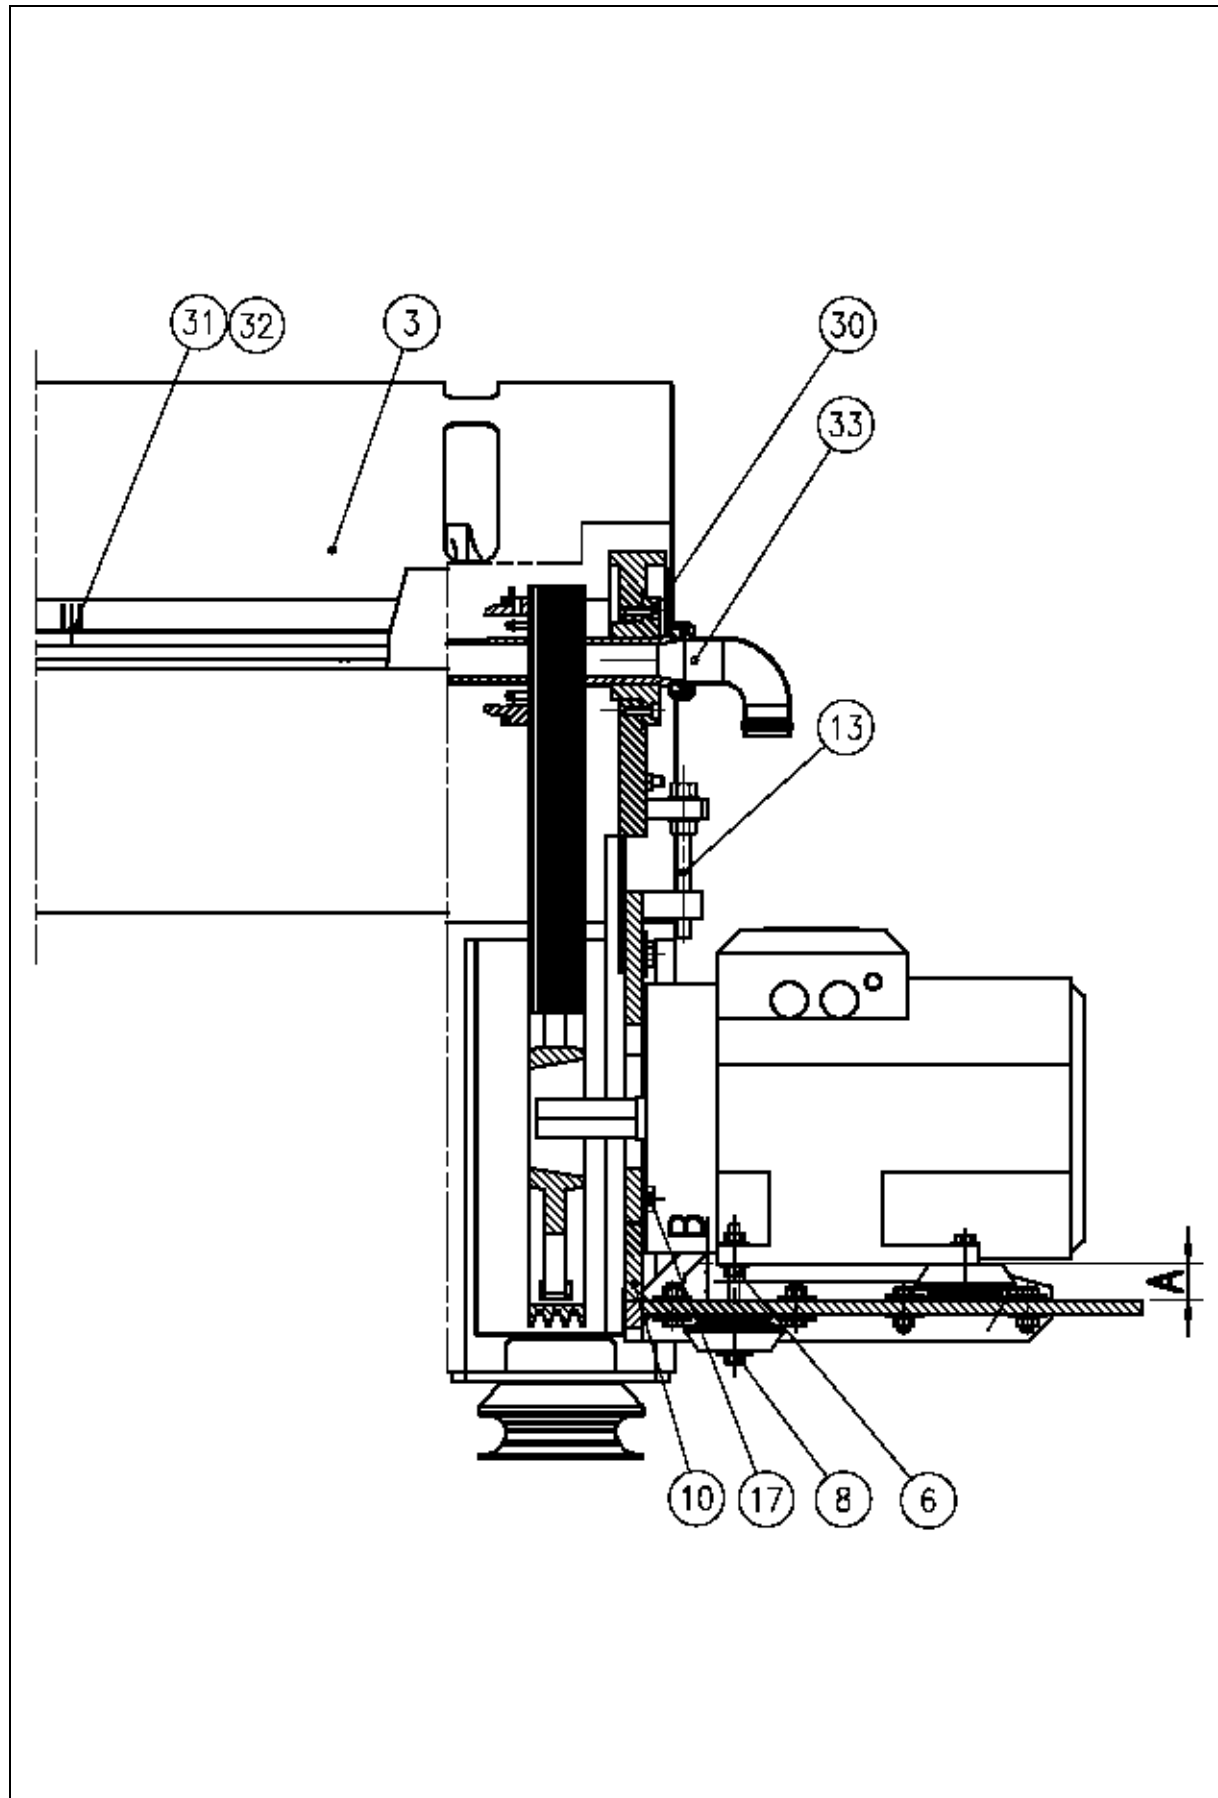

Figure 4.5.1
4.5.1 Disassemble Main Drive (Fig. 4.5.1)
4.5.2 Assemble Main Drive (Fig. 4.5.1)
Refer to Fig. 4.5.1 for identification of parts.